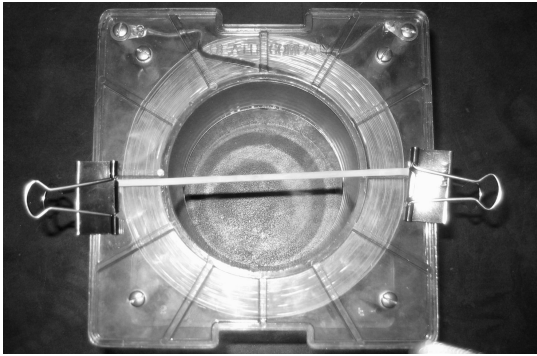

Figure 12.6: Rubber band attached to big coil.
1. Take a length of rubber band and two binder clips from your lab bench. Stretch the rubber band along a diameter of your big coil, and use the binder clips to secure it in place (see Figure 12.6).